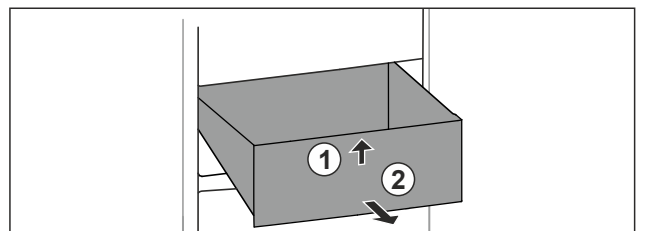

Fig. 36
► Lift up drawer at the front. Fig. 36 (1).
► Remove drawer to the front. Fig. 36 (2).